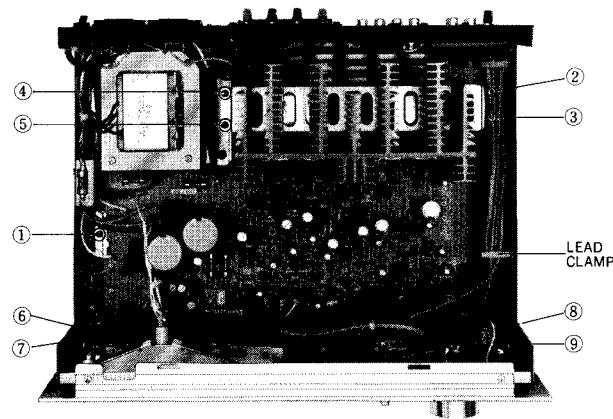

Fig. 2
4. Remove four (4) heat sink-mounting screws. (Refer to Fig. 2: ②~⑤).
5. Remove four (4) panel-mounting screws from chassis. (Refer to Fig. 2: ⑥~⑨, left and right side).
2. Remove lead wires from lead clamp. (Refer to Fig. 2).
3. Remove a screw and printed circuit board metal clamp. (Refer to Fig. 2: ①).